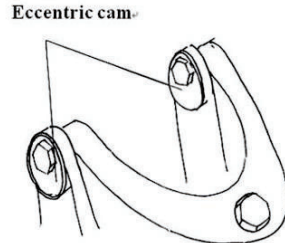

Fig. 1-19
1.5.1.3.2 Eccentric bolt type: In the double-wishbone suspension system, if the eccentric bolts inside the swing arm rotate by the same angle, the camber value can be adjusted; if the rotation angles of the two bolts are different, the caster value can be changed (as is shown in Fig. 1-19);